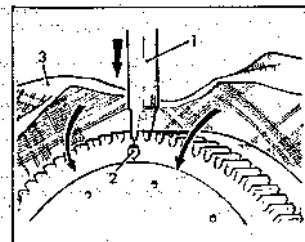

Fig. 1.15 Starter ring gear renewal (Sec 36)
- 1 With the flywheel removed from the engine, drill a small hole approximately 0.375 in (10 mm) laterally across the starter ring gear. Take care not to allow the drill to enter or score the flywheel or flange. The hole should be made between the root of any gear teeth. This will weaken the ring gear and facilitate removal by breaking with a cold chisel (Fig. 1.15).